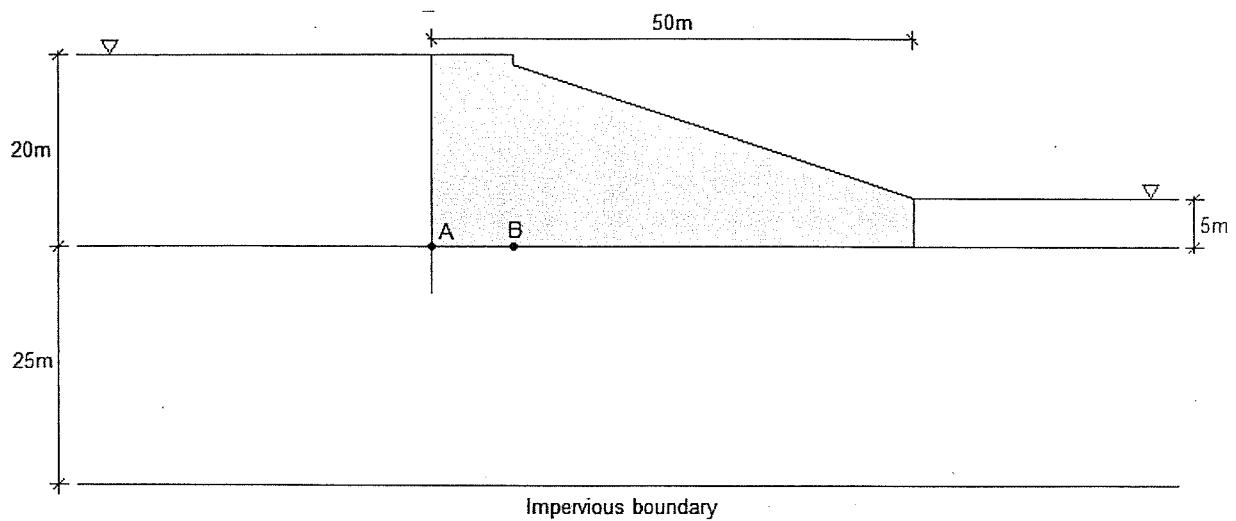

Fig. 6
6. The gravity dam shown in Fig. 6 has a 5m cut-off wall at point A. It has an upstream water depth of 20m and a tail-water depth of 5m. The Coefficient of Permeability of the soil is 0.003 cm/s.